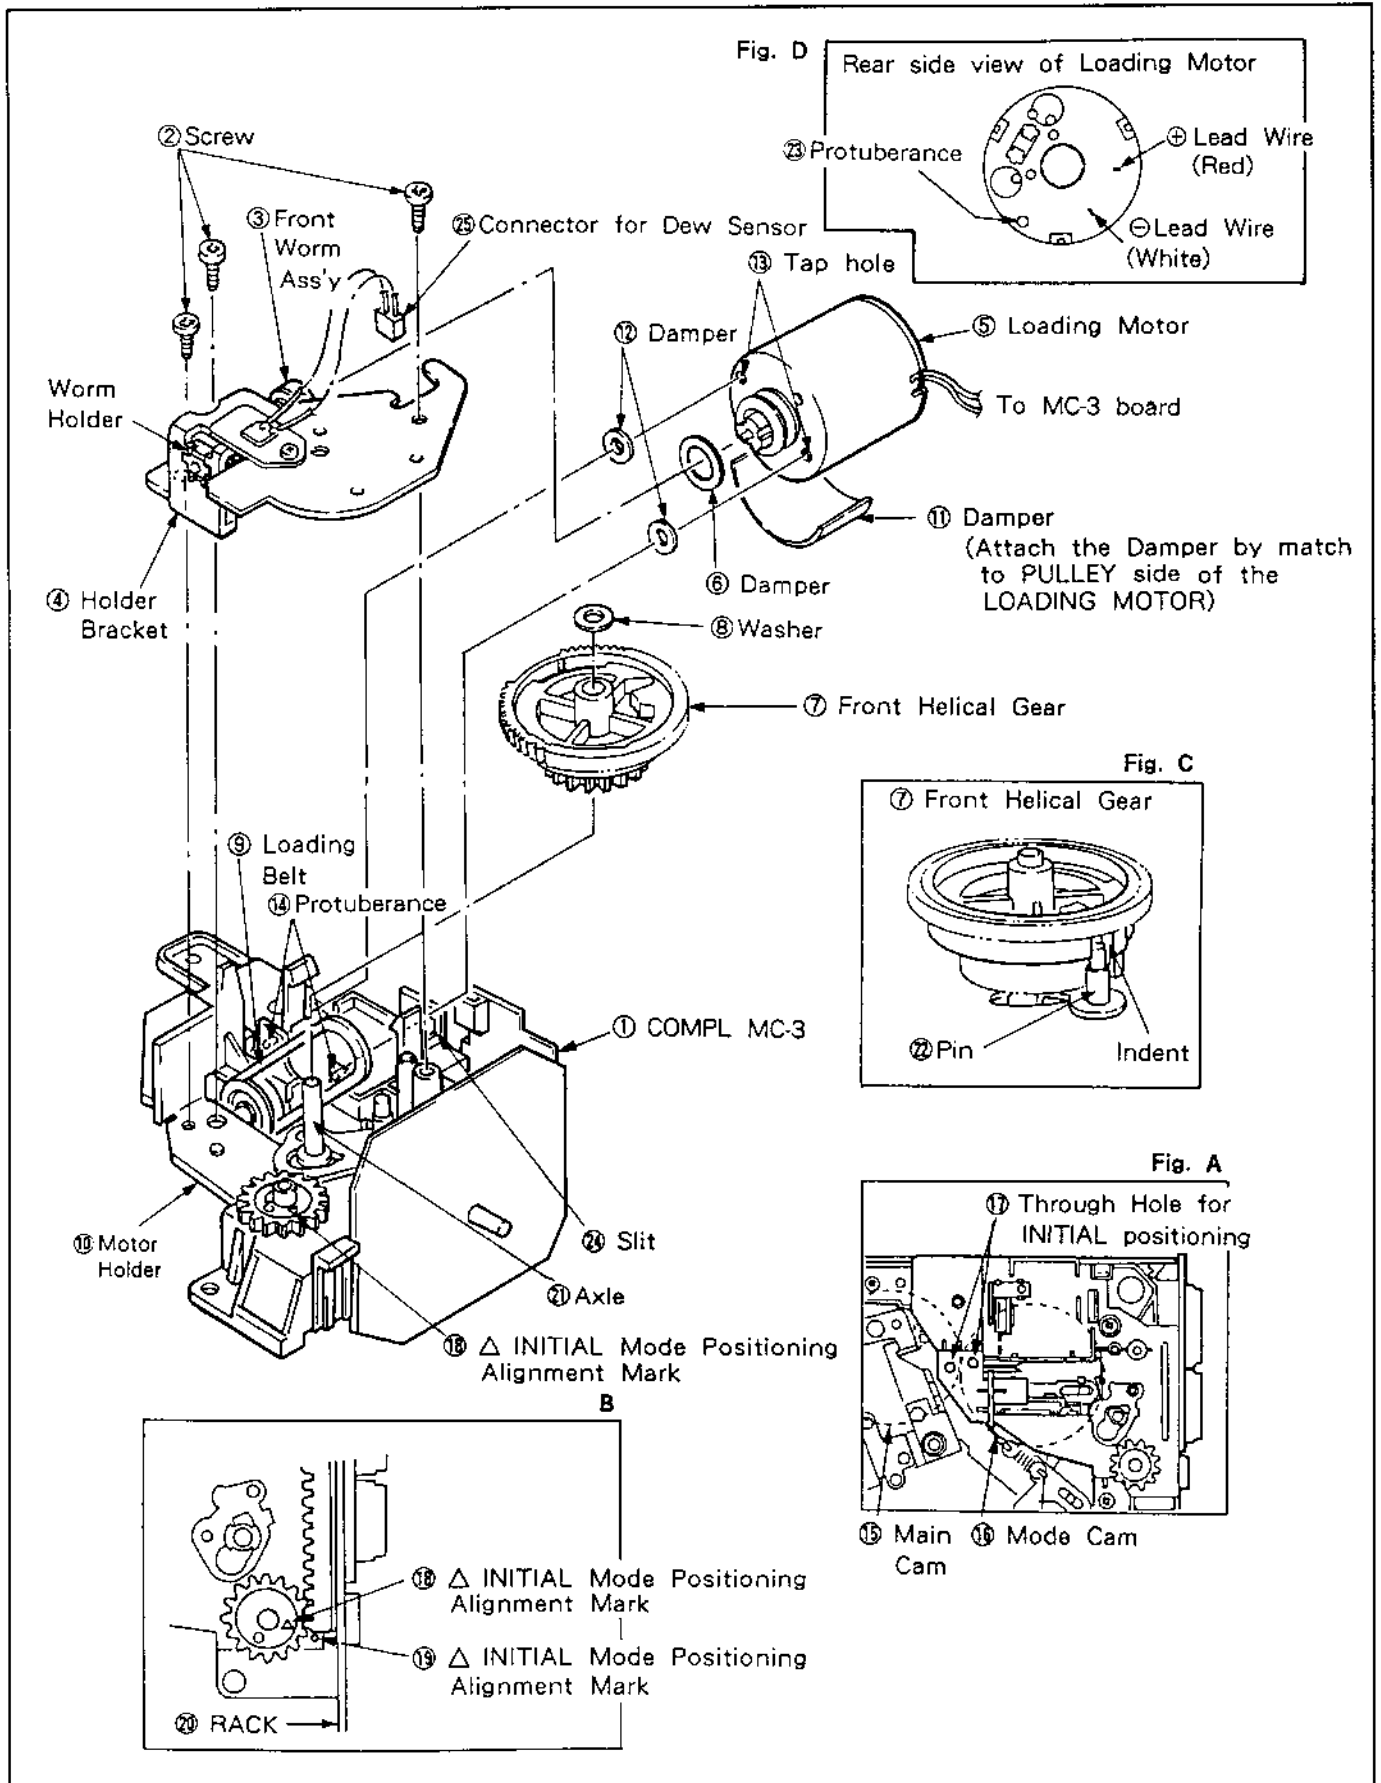

Fig. 2-3-2. Loading Motor
2-3-2. Loading Motor (Refer to Fig. 2-3-2.)
Before attaching the LOADING MOTOR ⑤ to the MOTOR HOLDER ⑩, confirm the DAMPER ⑪ and DAMPER ⑫ shown in Fig. 2-3-2. are in the proper position on MOTOR HOLDER ⑩.
- 1) The LOADING MOTOR ⑤ puts PROTUBERANCE ⑬ in the slit ⑭ of the MOTOR HOLDER ⑩.
- 2) Solder the lead wire from the MC-3 board to the LOADING MOTOR ⑤ terminal. (Solder the red lead wire to the positive terminal side.)
- 3) Hang the LOADING BELT ⑨ on the pulley.
- 4) After hanging the LOADING BELT ⑨ on the pulley, confirm that the mechanism unit is in the INITIAL mode. The initial mode is indicated by Fig. A of Fig. 2-3-2., and is the position in which INITIAL mode positioning alignment holes of the MAIN CAM ⑰ and MODE CAM ⑱ are lined up with the THROUGH HOLE ⑲ of the MOTOR HOLDER. If the INITIAL mode is not selected, adjust with MODE SELECTOR (VHJ-0050).
- 5) As shown in Fig. B, confirm the positions of the Δ INITIAL positioning alignment mark on the FRONT LOAD GEAR ⑲ and INITIAL mode positioning alignment mark ⑲ position of the MOTOR HOLDER and the position relationship of the RACK ⑳.
- 6) Apply a light coat of grease to the entire sides of the AXLE ㉑ and FRONT HELICAL GEAR ⑦.
- 7) Attach the FRONT HELICAL GEAR ⑦ and WASHER ⑧ to the AXLE ㉑. As shown in Fig. C, the FRONT HELICAL GEAR ⑦ is attached so that the indent on the side is inside PIN ㉒ of the FRONT LEVER ASS'Y.
- 8) Attach the DAMPER ⑥ to the LOADING MOTOR ⑤ pulley.
- 9) The HOLDER BRACKET ④ is attached by engaging the FRONT WORM ASS'Y ③ with the LOADING MOTOR ⑤ pulley, and held in place with three screws ②.
- 10) Attach the connector of DEW SENSOR ㉓ to the MC-3 board ① and return the mechanism to the eject completion using MODE SELECTOR.